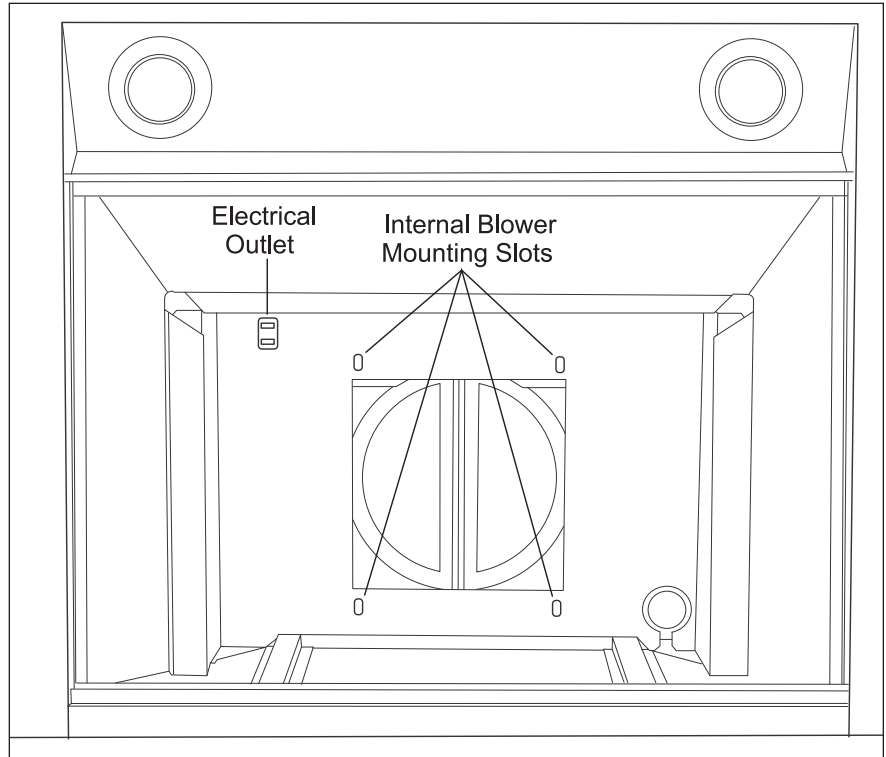

Figure 2-21 Internal Blower Install
3. Use four hex nuts provided with the blower to fasten the unit to four threaded studs. (See Figure 2-21)